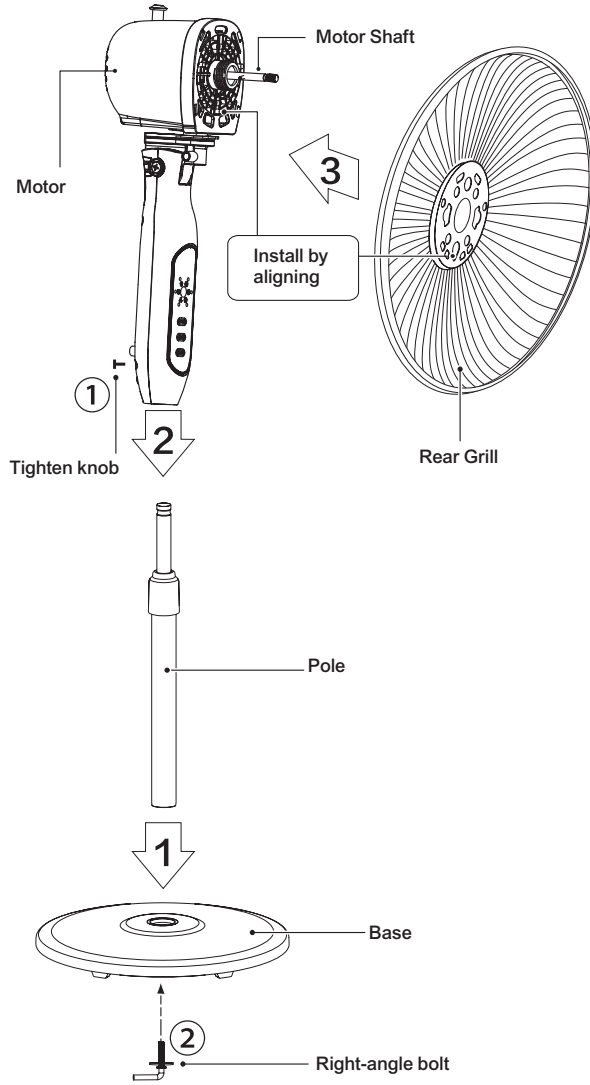

Fig. 1
2. Place the head unit on the column and tighten the screw in alignment with the groove on the internal pole (see Fig. 1)
3. Remove the spinner on the head unit by turning it clockwise. Then remove the plastic nut by turning it counterclockwise. Place the rear guard to the head unit (see Fig. 1)